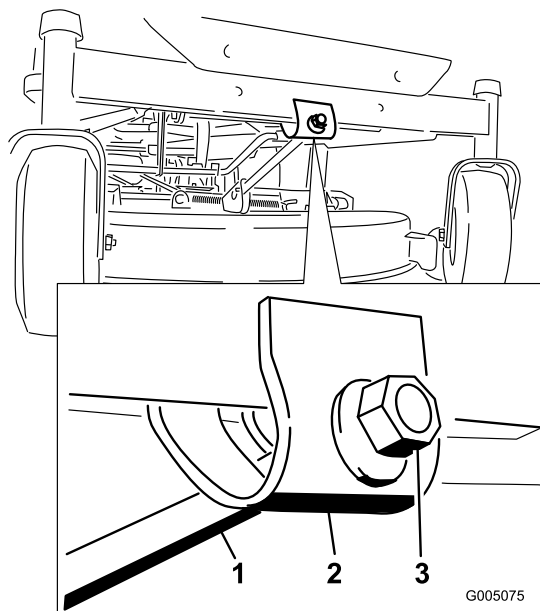

Figure 46
7. To adjust the front-to-rear blade slope, rotate the adjustment nut in the front of the mower (Figure 46).